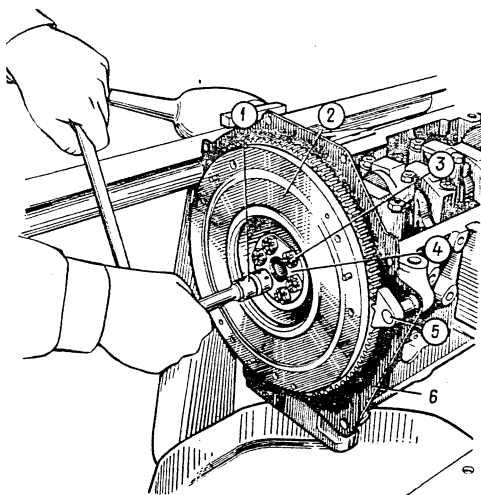

Fig.2-10. Removing the Flywheel:
Remove the crankshaft pulley, securing the flywheel with fixing tool A.60330/R (Fig. 2-10)
Install fixing tool 5 (Fig. 2-10), unscrew bolts 3, take off washer 4 and pull the flywheel from the crankshaft. Remove the front cover of the clutch housing.
Install clutch housing front cover 6 (Fig. 2-10) with the aid of two aligning bushings.
- if the marks are in alignment, lock the flywheel with fixing tool A.60330/R (Fig. 2-10), tighten up finally the sprocket bolts, the chain tensioner cap nut and bend the lock washers of the sprocket bolts; if the marks fail to coincide, repeat the chain installation operations;